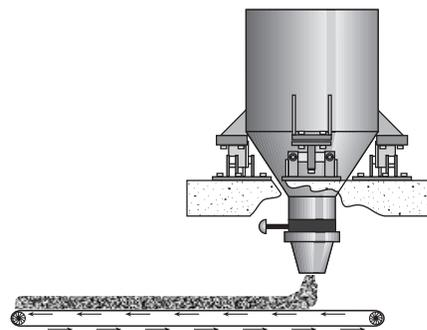

Figure 1-10
F. Figure 1-10 illustrates a loss in weight system. This is used where a process needs a batch of material (not more than the capacity of the weigh hopper), but that material needs to be fed to the process at a controlled rate.